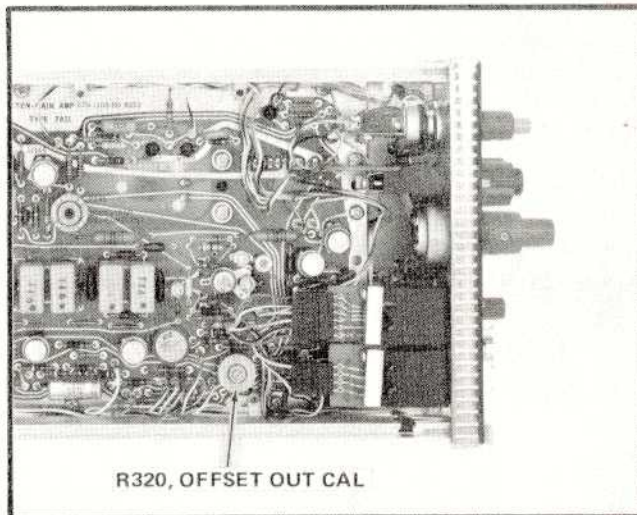

Fig. 5-8. Adjustment location, step 7.
f. CHECK—OFFSET OUT accuracy. Using the Differential Voltmeter and the Cable Assembly (item 18), check the voltage at the OFFSET OUT jack. It should be equal to the following:  $-500\text{ mV } \pm 5.5\text{ mV}$  with Amplitude Calibrator And Comparator;  $-400\text{ mV } \pm 10.5\text{ mV}$  with Oscilloscope Calibrator.
g. (Calibration Procedure only.) ADJUST—OFFSET OUT CAL - R320 (Fig. 5-8) as necessary to obtain 500 mV OFFSET OUT voltage with Amplitude Calibrator And Comparator, or 400 mV with Oscilloscope Calibrator. Note that R320 interacts on the trace position and the front-panel OFFSET controls will have to be readjusted to keep the trace at graticule center.